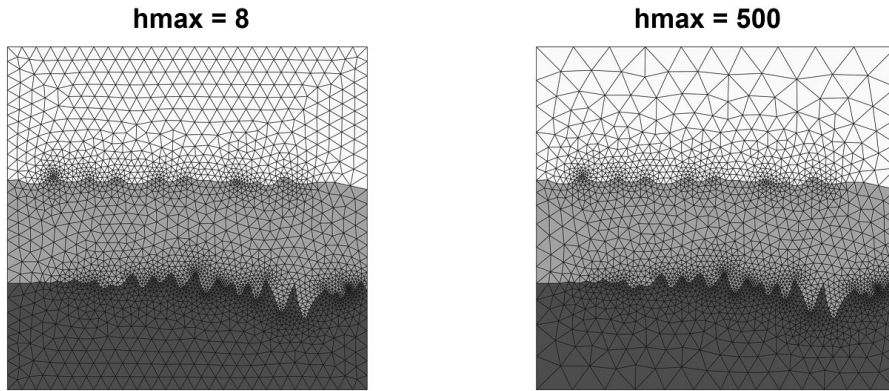

Figure 11: Effect of *Max Mesh-size*
- *Max Mesh-size*: Maximum mesh edge lengths. This is an approximate upper bound on the mesh edge lengths (Figure 11). Type: Float. Range: > 0 .